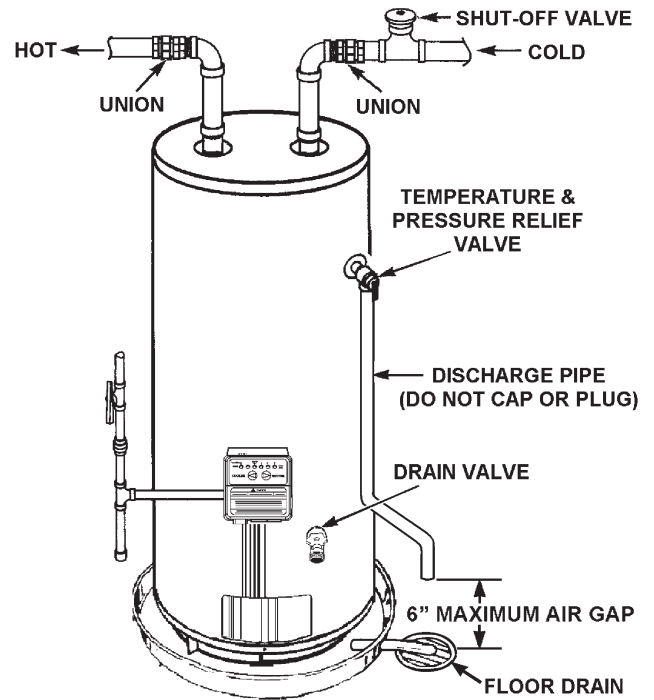

FIGURE 11.
- For test pressures exceeding 1/2 psi (3.45 kPa) disconnect the water heater and its Main Gas Shutoff Valve from the gas supply piping system during testing, see Figure 11. The gas supply line must be capped when disconnected from the water heater.